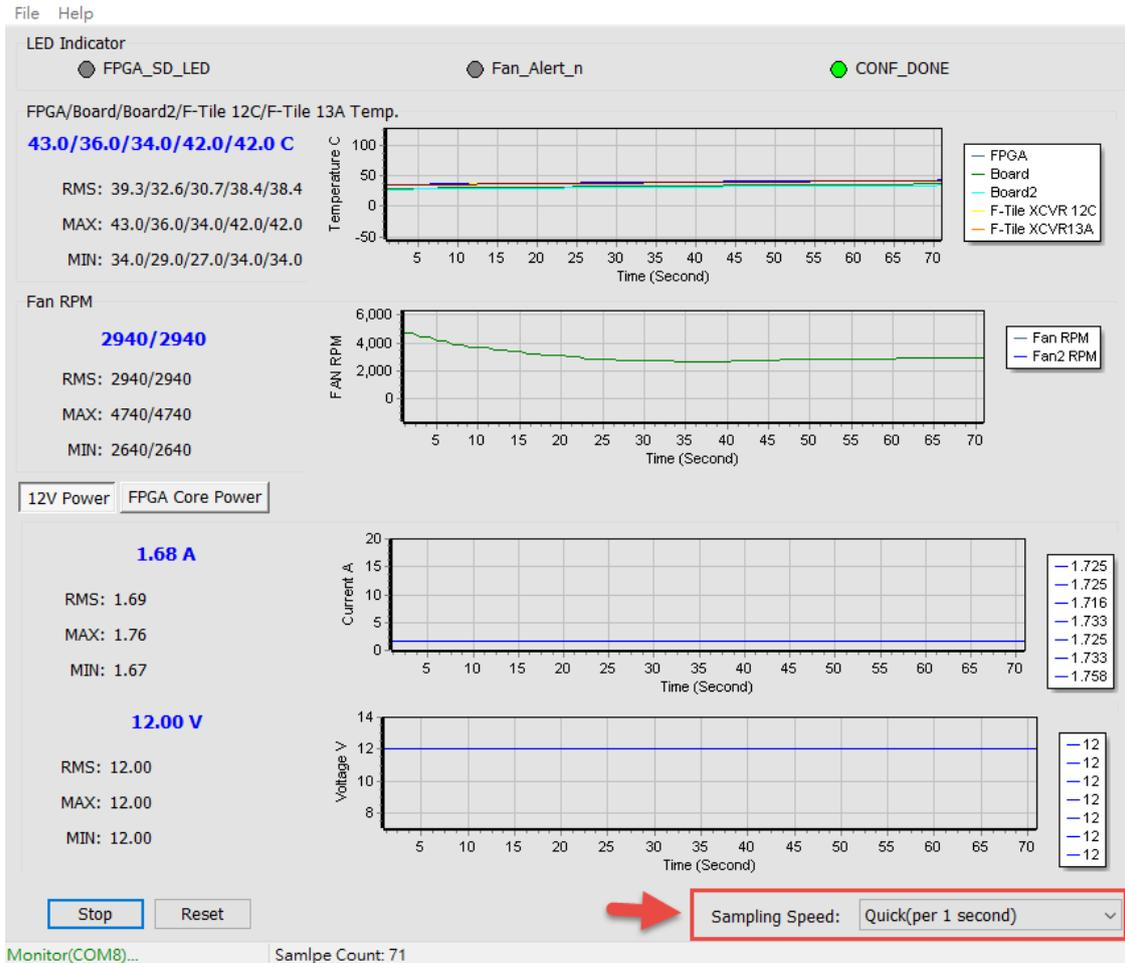
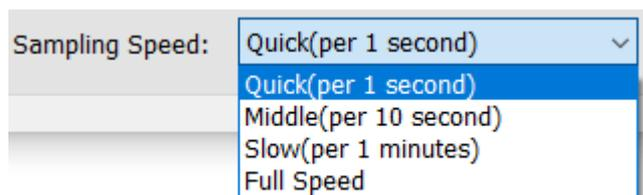

Figure 3-14 Sampling Speed section
Figure 3-15 Options of Sampling Speed
- **Sampling Speed:** It can change interval time that the Dashboard GUI sample the board status. Users can adjust it to 1s/10s/1min/Full Speed (0.1s) to sample the board status, as shown in **Figure 3-14** and **Figure 3-15**.